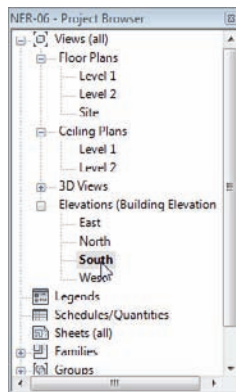

FIGURE 3.1 Finding an elevation in the Project Browser
1. In the Project Browser, double-click the South elevation. It is located under Elevations (Building Elevations), as shown in Figure 3.1.